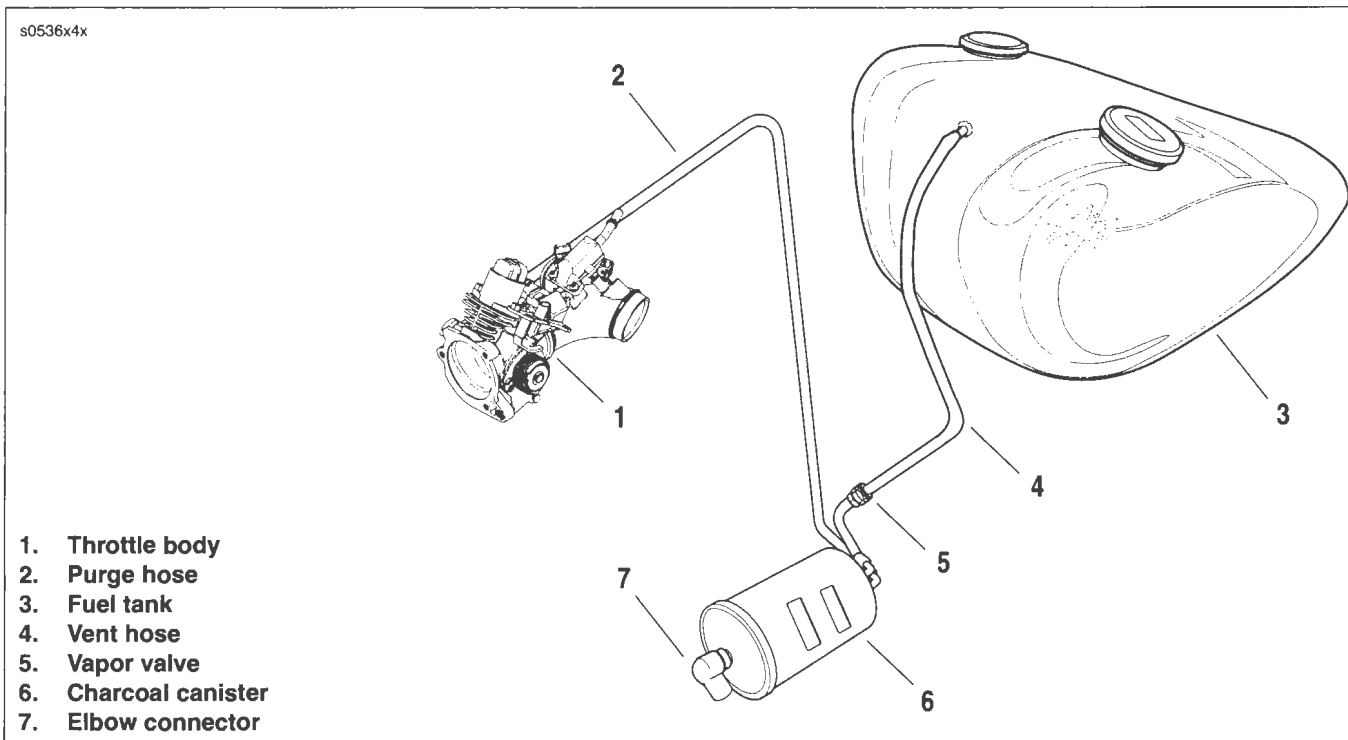

Figure 4-66. Schematic-CA Evaporative Emissions Control System
- a. See Figure 4-66. Attach the preformed purge hose to the intake purge fitting.